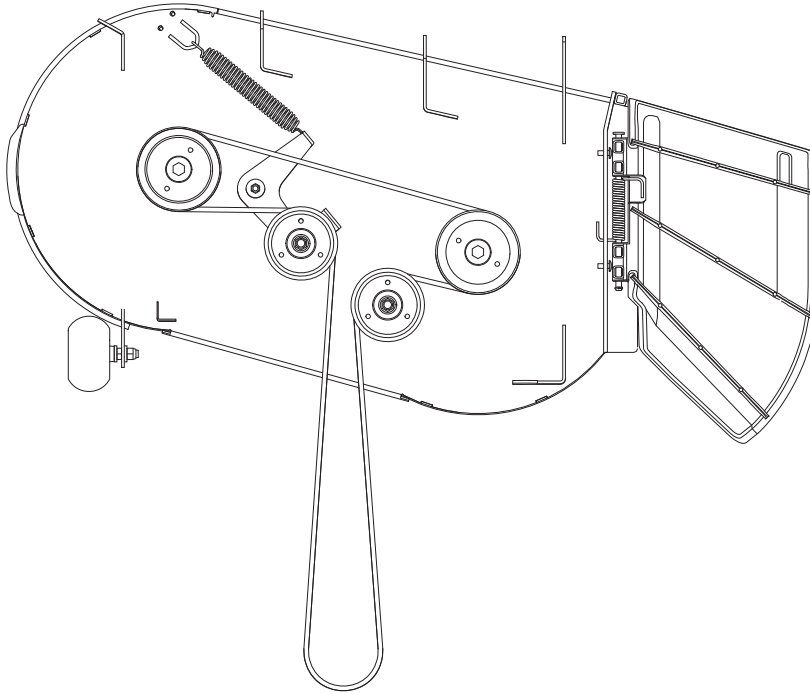

Figure 6-18
7. Route the new deck drive belt around the clutch pulley, spindle pulleys and stationary idler pulley. Make certain the belt is routed properly. Figure 6-18 & Figure 6-19